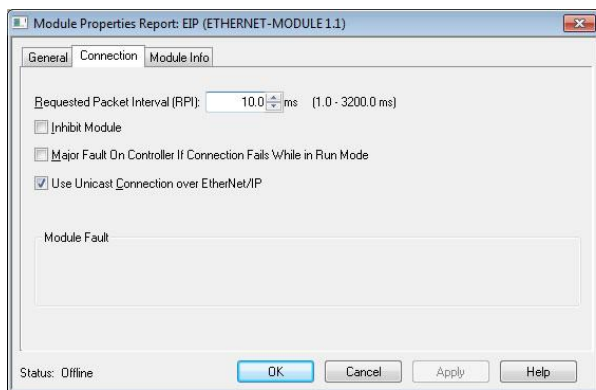

Figure 39: Module Properties Connection Tab
- 5) You should now see the new module (named “ETHERNET-MODULE Interface_Card”) in the 1756-ENBT/A branch under the I/O Configuration in the controller organizer view. Right click on this new module, choose “Properties”, and select the Connection tab. Refer to Figure 39.